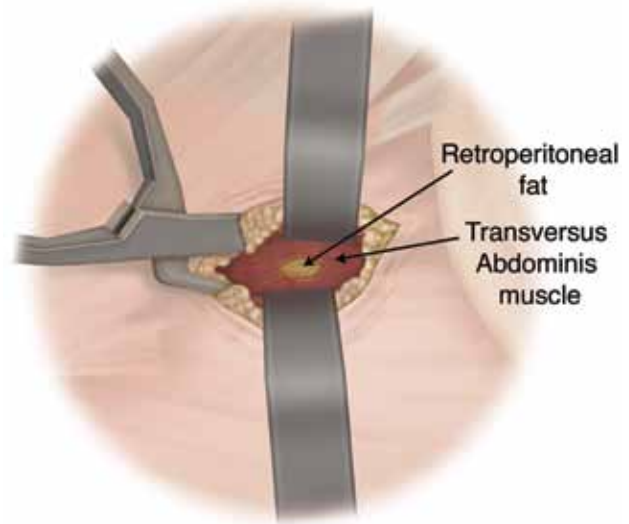

Figure 9
- Step 2** The external oblique fascia will be the first plane encountered and is the only layer that will need to be sharply incised. A Kelly Clamp is then used to bluntly spread through the fibers of the external oblique, internal oblique and transversalis muscles. All dissection is done in line with the muscle fibers as these muscles layers run in opposite directions. After bluntly penetrating the transversalis fascia, the yellow retroperitoneal fat is exposed (Figure 9).